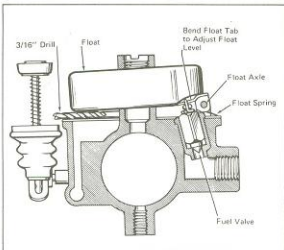

Figure 3-72
9. Insert fuel valve assembly (14) in fuel valve seat. Assemble float spring (13) and float (12) and install float pin (11). Be sure that fuel valve clip is attached to the float tab. If necessary, bend clip to provide minimum clearance with tab (approximately .010 in.).
10. With the carburetor inverted (inlet needle seated), bottom surface of float should be $3/16$ in. from gasket surface at point opposite hinge. A $3/16$ in. drill can be used as a gauge as shown in Figure 3-72. If adjustment is required, use long nosed pliers to bend the tab that contacts the fuel valve. Be careful to avoid damage to the fuel valve or seat.
1. Carefully guide cup of accelerating pump (3) into pump well. Seat accelerating pump boot around top of accelerating pump boss.
2. Assemble washer (7) on main jet and discharge tube (6) and assemble O-ring (8) in groove near end of discharge tube.
3. Hold carburetor inverted (with float up) and rotate the long end of the spring upward so that it is against the float. Carefully position the fuel bowl on the throttle body releasing the float spring so that the long end of the spring presses against the side of the bowl (refer to Figure 3-72). Be sure that the accelerating jet fits properly in the hole in the throttle body.
4. Assemble main jet and tube (6) through hole in bottom of bowl and into throttle body boss.
5. Assemble gasket (5) on idle tube (4) and insert tube in throttle body. Carefully guide tube through bore and into discharge tube on opposite side of venturi. Tighten idle tube and main jet.
6. Attach accelerating pump lever (2) on top of accelerating pump. Other end of lever goes on rectangular end of throttle shaft. Install pump lever screw (1) in end of throttle shaft.